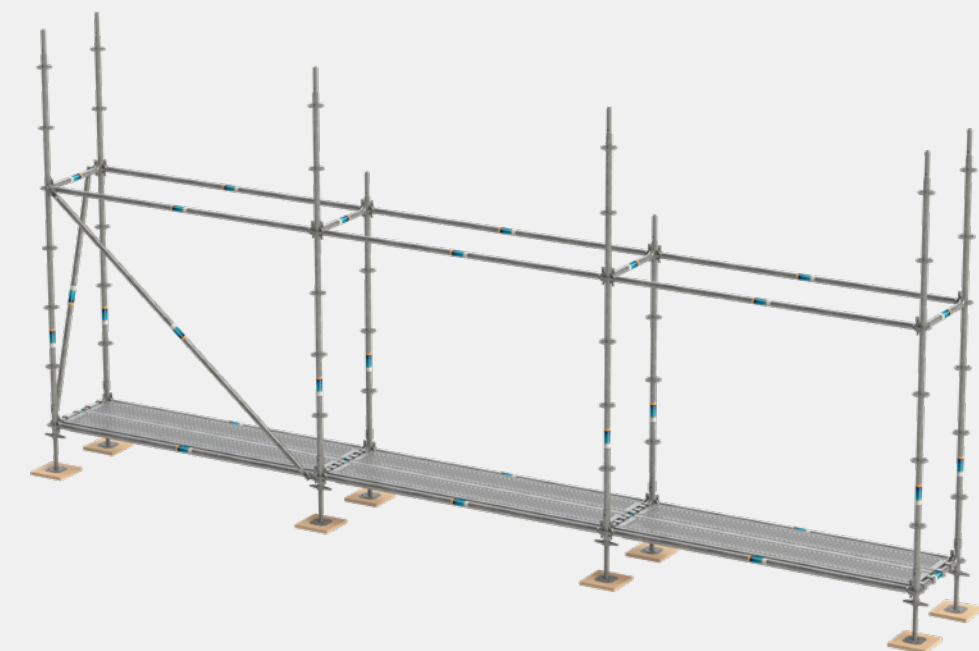

Figure 1.5
1.2.7 Diagonal braces must be fitted to the front sides at least every 5th bay from the bottom to the top of the scaffold or as specified in the design configuration (see figure 1.5).